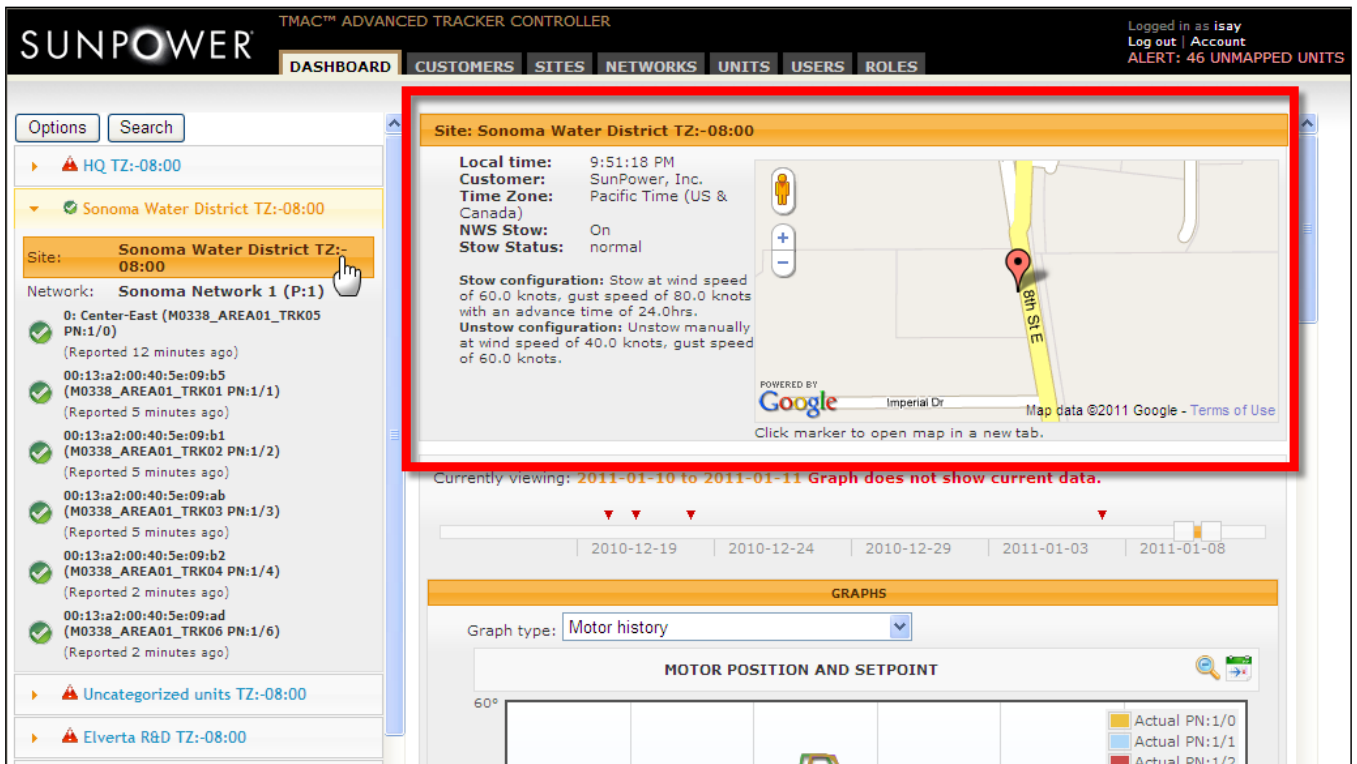

Fig. B7
- In the expanded pane for the selected site, click the site name link to display the site-level view. The site information is at the topmost section of the page (Fig. B7).